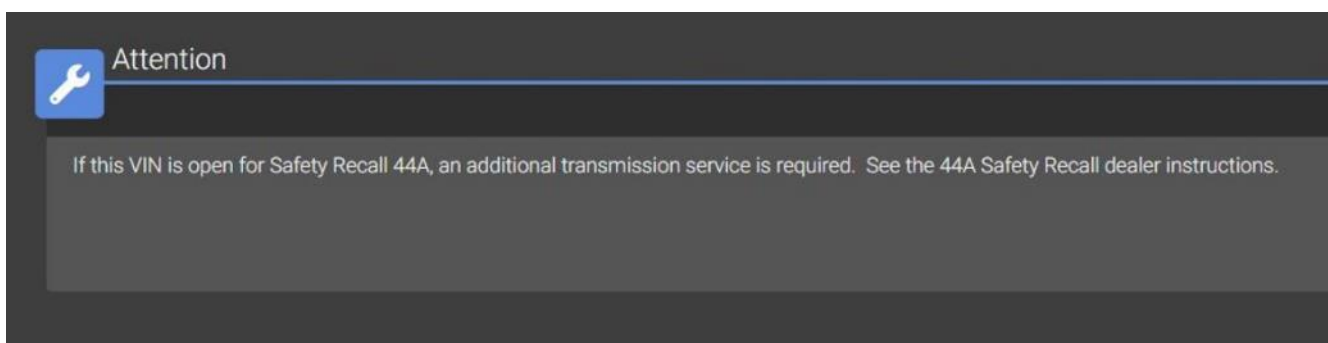

Figure 1 – wiTECH Popup Message
7. Did a wiTECH message pop-up appear stating "If this VIN is open for Safety Recall 44A, an additional transmission service is required. See the 44A Safety Recall dealer instructions."? (Figure 1)
15. Did a wiTECH message pop-up previously appear (Step 7 Figure 1) stating “**If this VIN is open for Safety Recall 44A, an additional transmission service is required. See the 44A Safety Recall dealer instructions.**”?